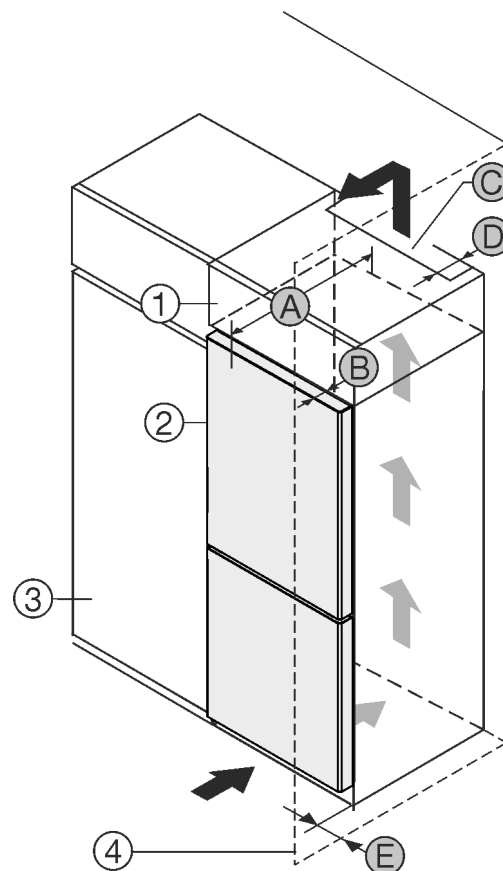

Fig. 1
You can place the appliance directly beside the kitchen cabinet Fig. 1 (3).*
There must be a ventilation shaft at the depth Fig. 1 (D) of the back of the top cupboard over the entire width of the top cupboard.*
The ventilation cross-section Fig. 1 (C) must be maintained under the ceiling.*
If the appliance is set up with the hinges next to a wall Fig. 1 (4), the distance between the appliance and the wall must be at least 13 mm.*
If the appliance is set up with the hinges next to a wall *Fig. 1 (4)*, the distance between the appliance and the wall must be at least 20 mm.*
In order to be able to fully open the door, the appliance must protrude by the depth of the door *Fig. 1 (B)* from the front of the kitchen cabinet. The appliance may protrude further depending on the depth of the kitchen cabinets *Fig. 1 (3)* and whether wall spacers are used.*